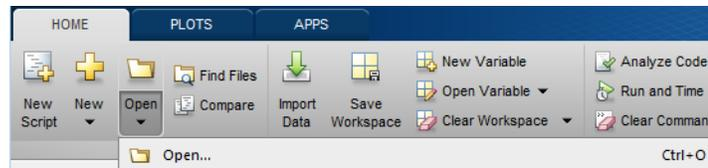

Figure 11-3: Open the System Generator Design
2. When Matlab invokes, click the **Open** toolbar button, as shown in Figure 11-3.